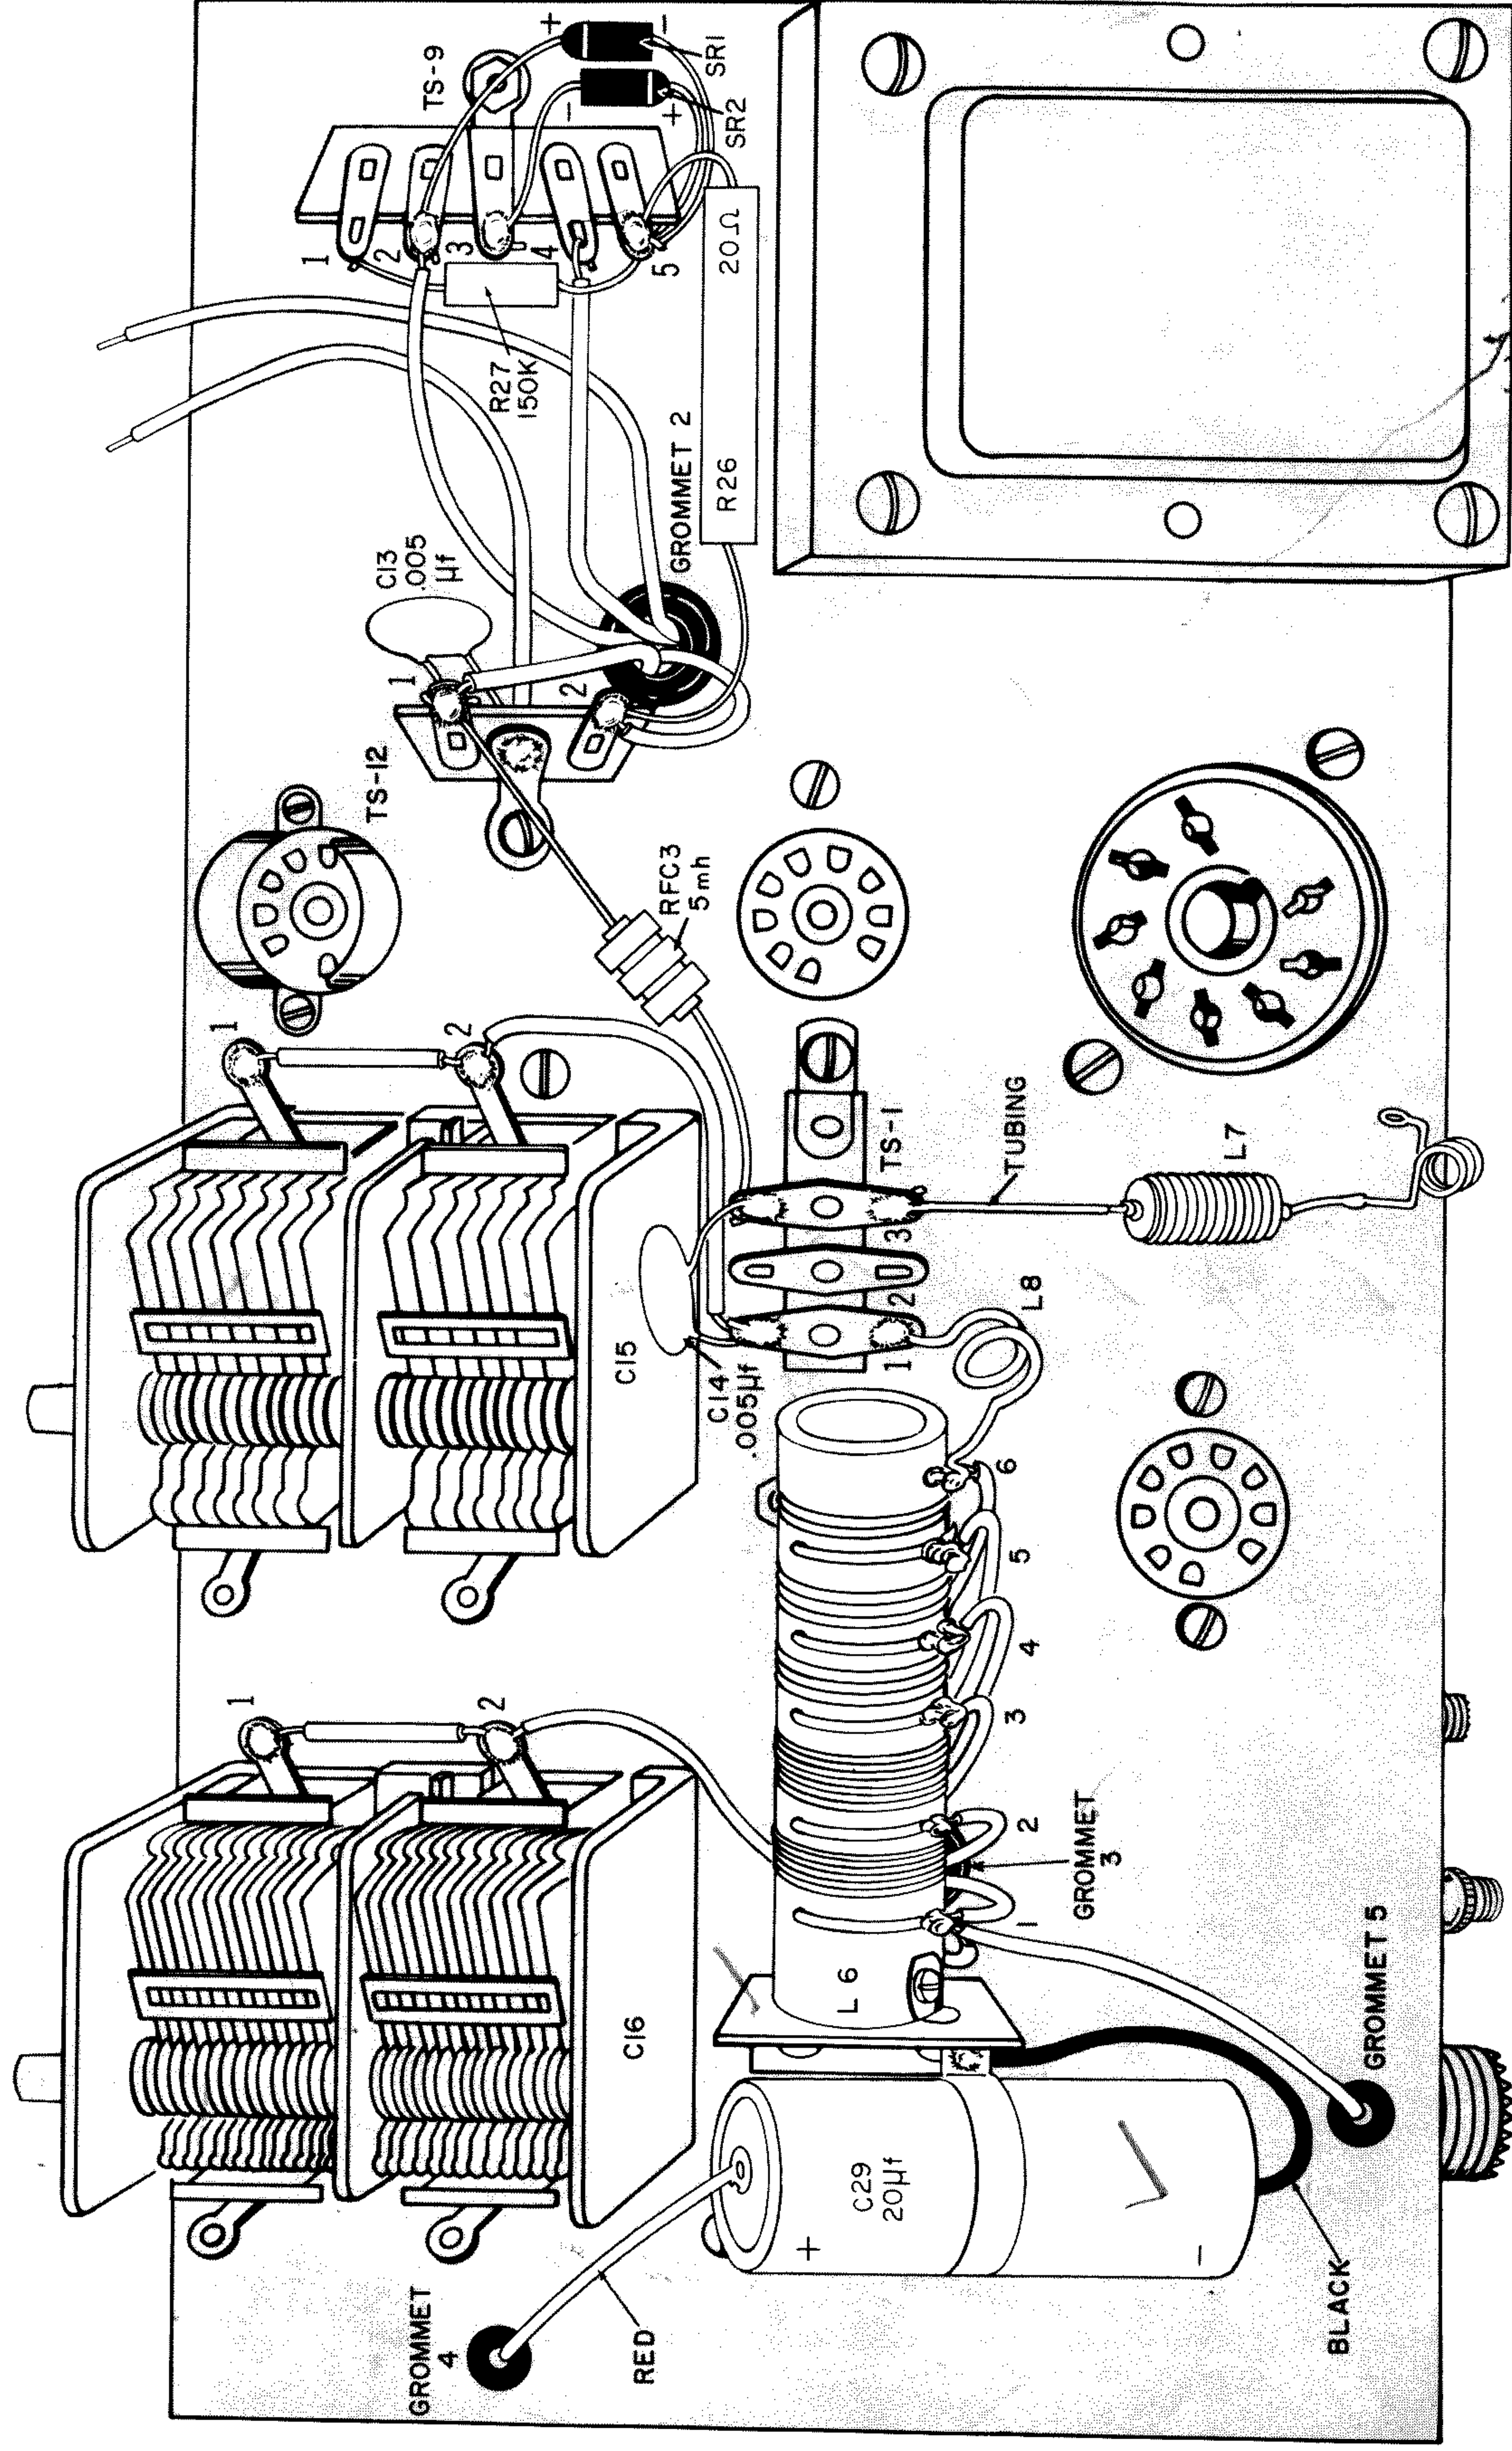

FIGURE 11
SEE FIGURE 11
- ☒ C13, .005 μ f, disc capacitor. Connect one lead to terminal 1 of TS-12. Insert other lead in center hole of TS-12 as shown in Figure 11.
- ☒ Solder black wire on capacitor to C29 mounting bracket. See Figures 11 and 13.
- ☒ SR2, silicon rectifier. Cut leads to $\frac{3}{4}$ ". Connect the positive (+) lead (banded end) to terminal 5 of TS-9. Observe polarity as shown in Figure 11. Solder the Negative (-) lead to terminal 3 of TS-9. Soldering silicon rectifiers calls for protection from heat. Hold the lead near the body of the rectifier with long-nose pliers while soldering. Hold lead till solder hardens and cools.